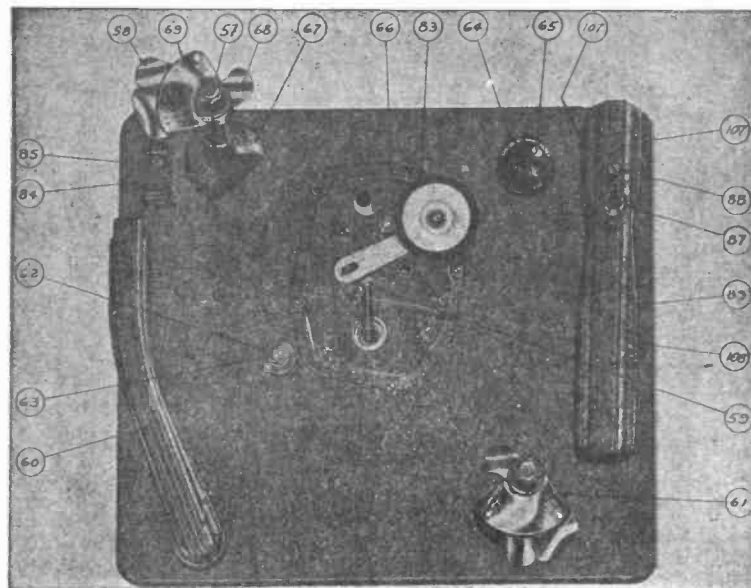
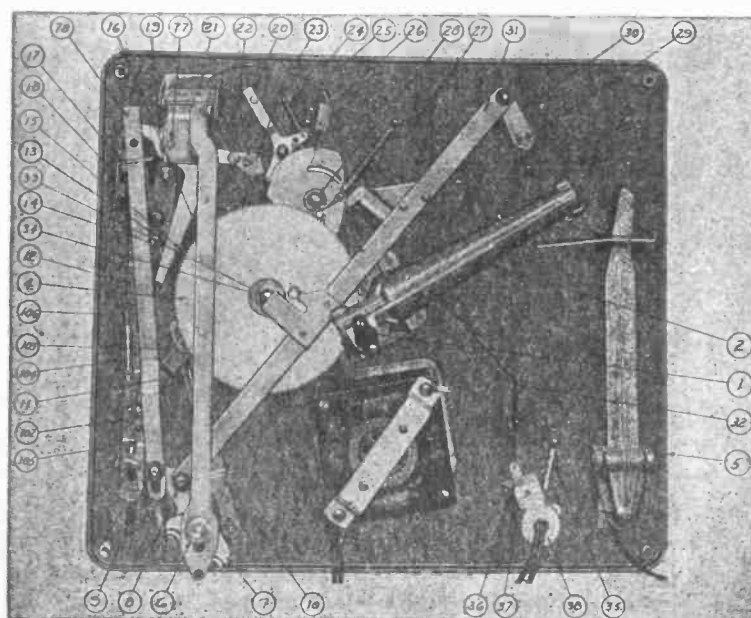
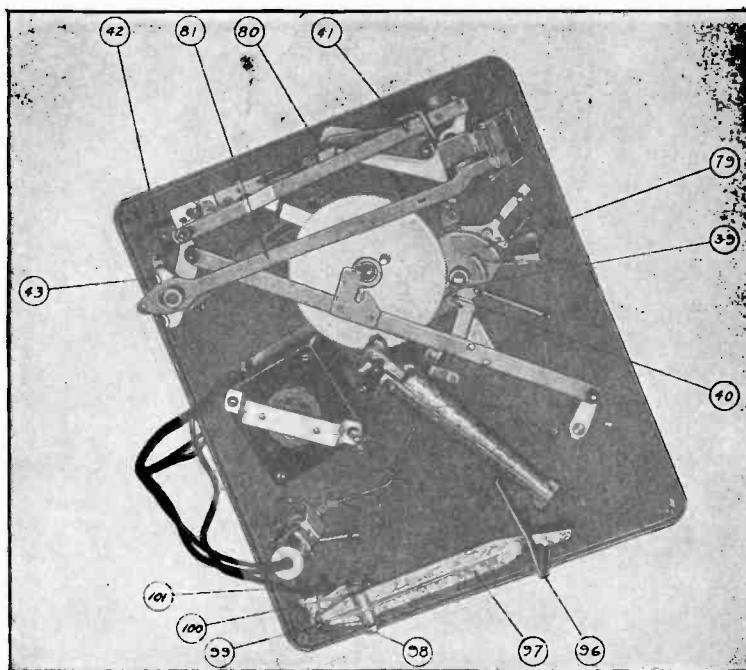

Figure 6
Figure 7
Figure 8
When Manual Control Button (Item 84, Fig. 6) is moved to the Manual Play-Back recording position, it moves the Manual Control Slide (Item 102, Fig. 7) which in turn moves Clutch Lock Slide (Item 103, Fig. 7) into a position which prevents Engagement Clutch Cam Assembly (Item 79, Fig. 8) from rotating. When Engagement Clutch Cam Assembly is in the above mentioned position and is not free to rotate, the Changer will not go into its changing cycle.
Also when the Manual Control Button is in the above mentioned position, the Manual Control Slide has moved the Locator Lock Slide (Item 106, Fig. 7) into a position where it engages the Tone Arm Locator & Bushing Assembly (Item 12, Fig. 7) and prevents same from bearing against Tone Arm Lever Assembly (Item 19, Fig. 7) allowing the Tone Arm to swing freely without hindrance and without setting Changer into its changing cycle. When the Manual Control button is in the automatic position the Changer will function normally as an automatic record changer.
(A) Threads from record cuttings getting down onto Rubber Idler wheel (Item 83, Fig. 6) and between drive wheel and motor pulley. This will cause very bad speed variation of the turntable and, of course, will result in very inferior recording. Cuttings may also wrap around motor shaft and cause motor to slow down or stop.
(B). *Tight pivot bearings:* Check cartridge pivot screw (Item 108, Fig. 6) for binding. Also recording arm pivot screw (Item 107, Fig. 6) and Traverse arm pivot screws (Item 101, Fig. 8). These bearings should all be free, but have no looseness or play.
If the pivot screw, (Item 108, Fig. 6) of the Cutter Cartridge is tight, the Cutter Cartridge cannot follow a slight up and down variation of the record or turntable. A record cut in this manner will, when played back, have a high scratch level, rough cutting and a tendency for the needle to jump from one groove to another.
(C) *Damaged Rubber Idler Drive Wheel* (Item 83, Fig. 6) *Rubber Idler Drive Wheel may have become*
(F) *Bent or Damaged Turntable Spindle:* If the Turntable Spindle (Item 59 Fig. 6) has been bent in shipment, or by someone exerting a heavy pressure on one side, it should be replaced with a new one. A bent Turntable Spindle will cause the surface of the Turntable to move up and down while it is turning and, of course, will seriously effect the quality of both recording and play-back.
(G) *Record Cutting Causing A Bind Between Turntable Spindle* (Item 59, Fig. 6) *and Its Bearing:*
(H) *Tension On Rubber Idler Drive Wheel* (Item 83, Fig. 6) *Too Great:*
(I) *Tension On Rubber Idler Drive Wheel* (Item 83, Fig. 6) *Too Weak:*